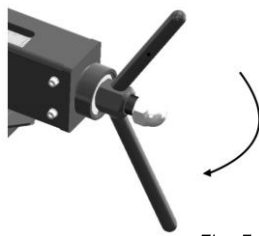

Fig. 5
3. Hold the workpiece in place and tighten the pressing die by turning the handle clockwise (Fig. 5).